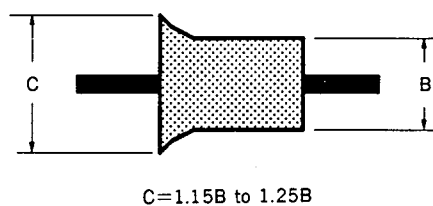

Fig. 7
- (6) Turn the No. 2 Guide and raise the entrance side waveform slightly. (fig. 7)